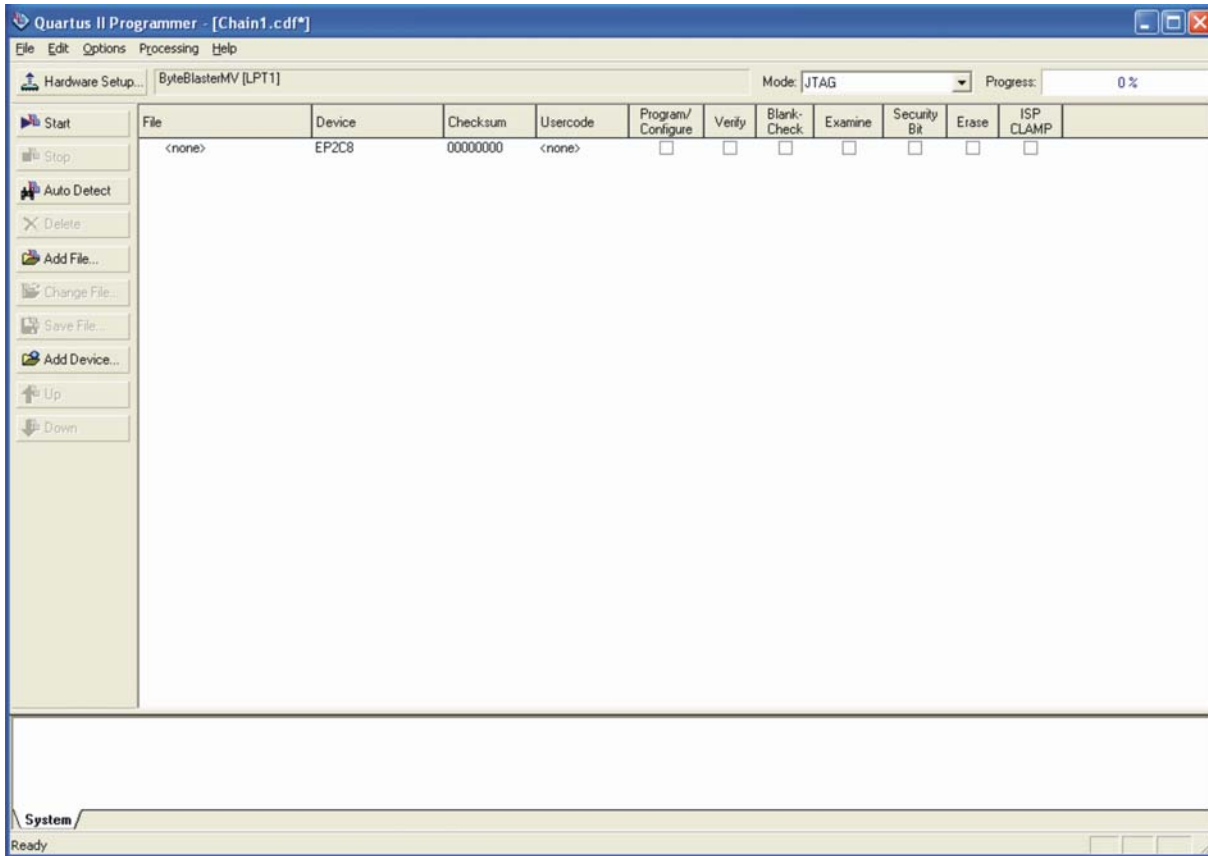

Figure A-3. EP2C8 Device Detected
7. Click **Auto Detect**. The software should recognize the EP2C8 device, as shown in Figure A-3.